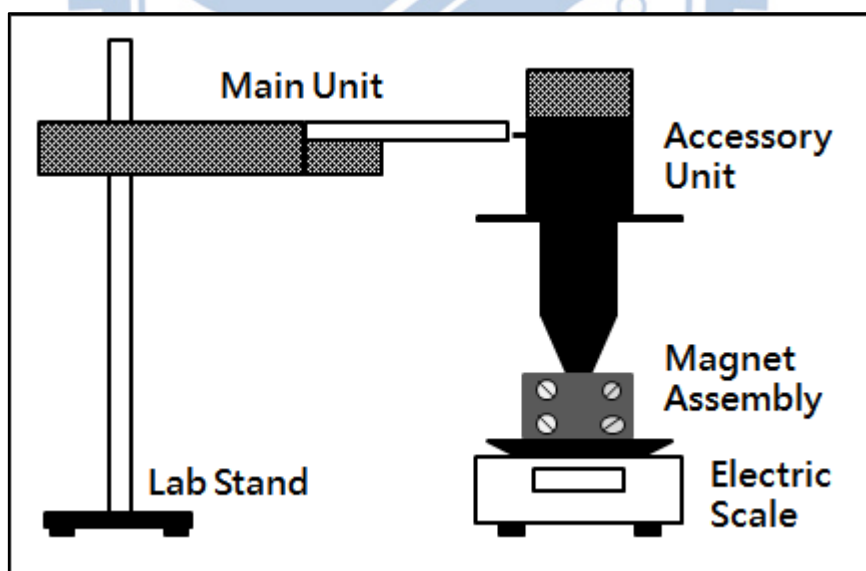

Figure 3. Experiment set-up II
1. Set up the apparatus as shown in figure 3.